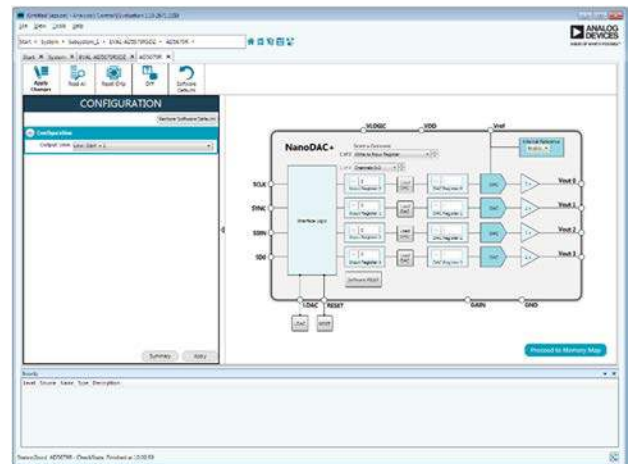

Figure 3. Chip Block Diagram of the AD5679R
4. Double-click the AD5679R chip to access the chip block diagram. This view provides a basic representation of the functionality of the board. The main functions of the board are labeled in Figure 3.